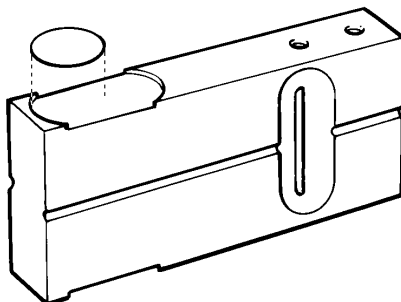

Figure 8 The background position
2. Place one of the (coated) abrasive pads supplied with the Diffuse Reflectance Accessory in the background (front) indentation in the sample holder (Figure 8).